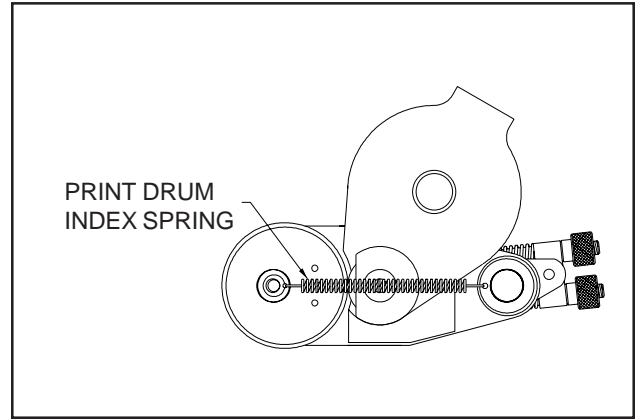

FIGURE 1
**Reset coders** contain a print drum spring return mechanism which provides print registration capabilities when carton printing (see Figure 1). As the trailing edge of a carton passes the coder, the print drum automatically rotates back to the same starting or "home" position. There must be adequate space between cartons at any given line speed for this mechanism to work properly. Printing with an reset coder will allow the imprint on each carton to be registered in the same position relative to the leading edge of the carton. The code will repeat every 9.1" down the length of the carton.